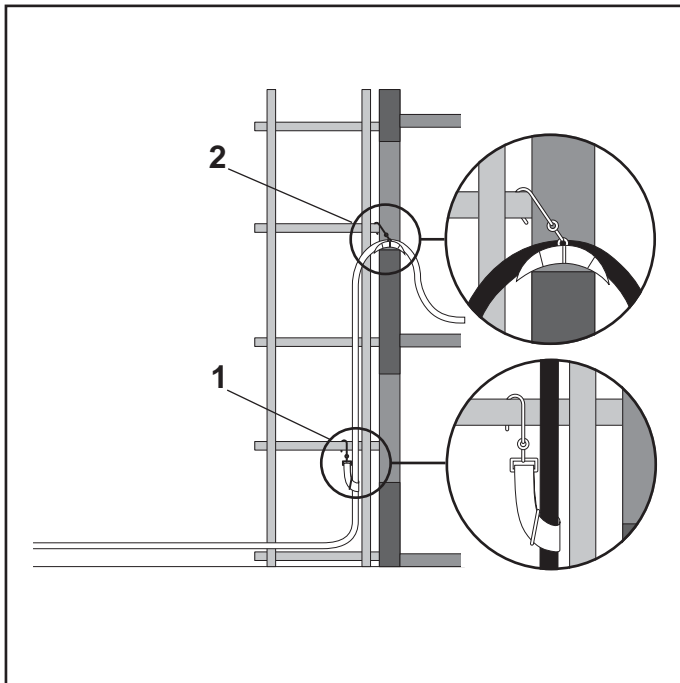

FIG.10
The pipe line must be fixed appropriately: use the pipe clamps (FIG.10-REF.1) for fixing the vertical tracts (it must always be positioned under the joint) and the appropriate arrival pipe clamp (FIG.10-REF.2).
- Connect the pipe segments, checking that the rubber gasket is present (FIG.10-REF.1).
- Tighten the levers completely (FIG.10-REF.2).